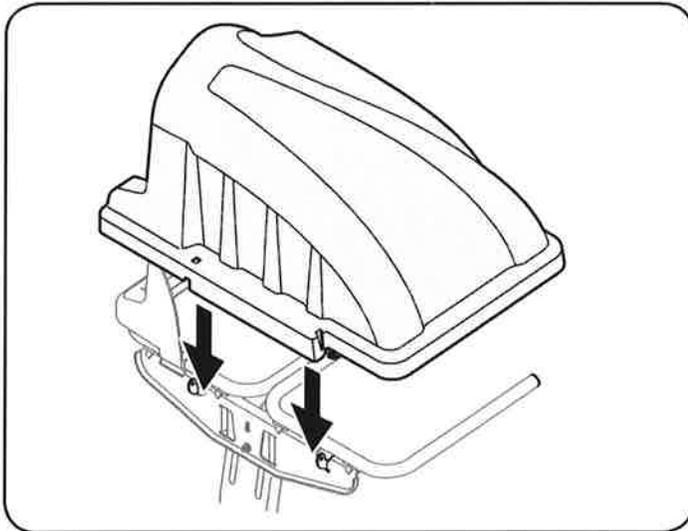

Figure 13
3. Install the grass catcher cover onto the bag support assembly, as seen in Figure 13. The grass catcher cover goes inside of the two mounting tabs on the bag support assembly.